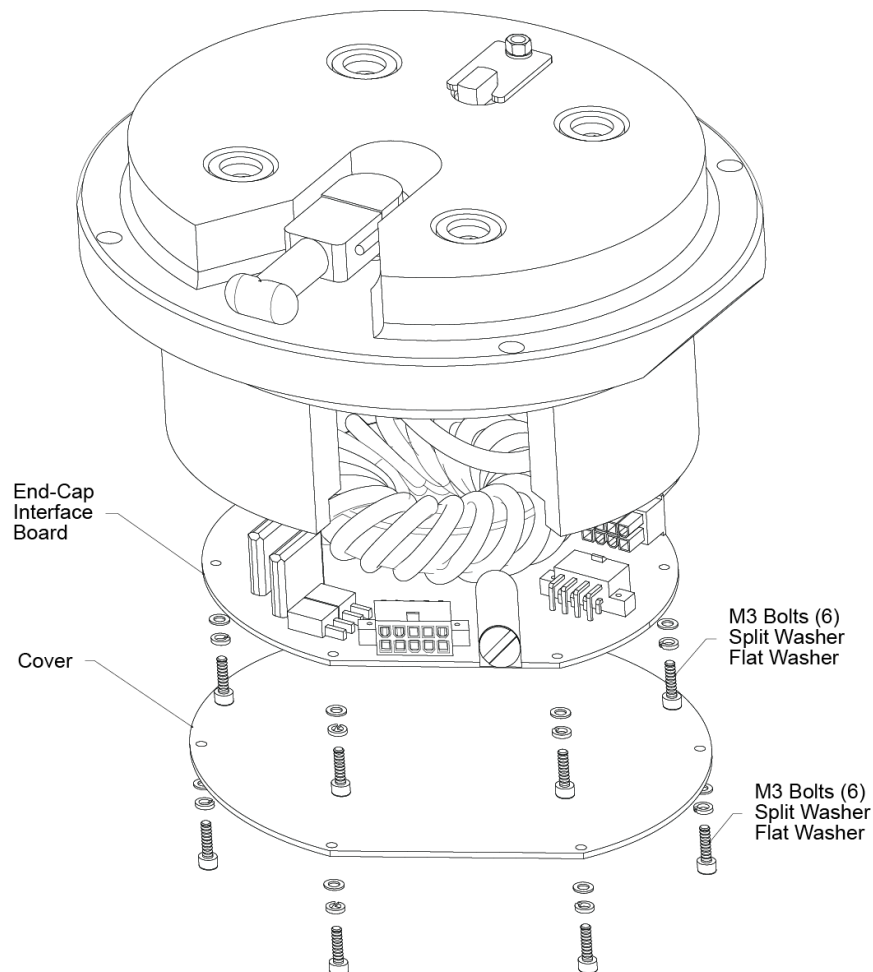

Figure 58. Long Ranger / QuarterMaster End-Cap Assembly
2. Remove the cover plate and End-Cap Interface board from the end-cap. See Figure 58 for details.
17. Replace the End-Cap Interface board and cover (see Figure 58). Install the end-cap. Use new end-cap O-rings and desiccant before sealing the ADCP.